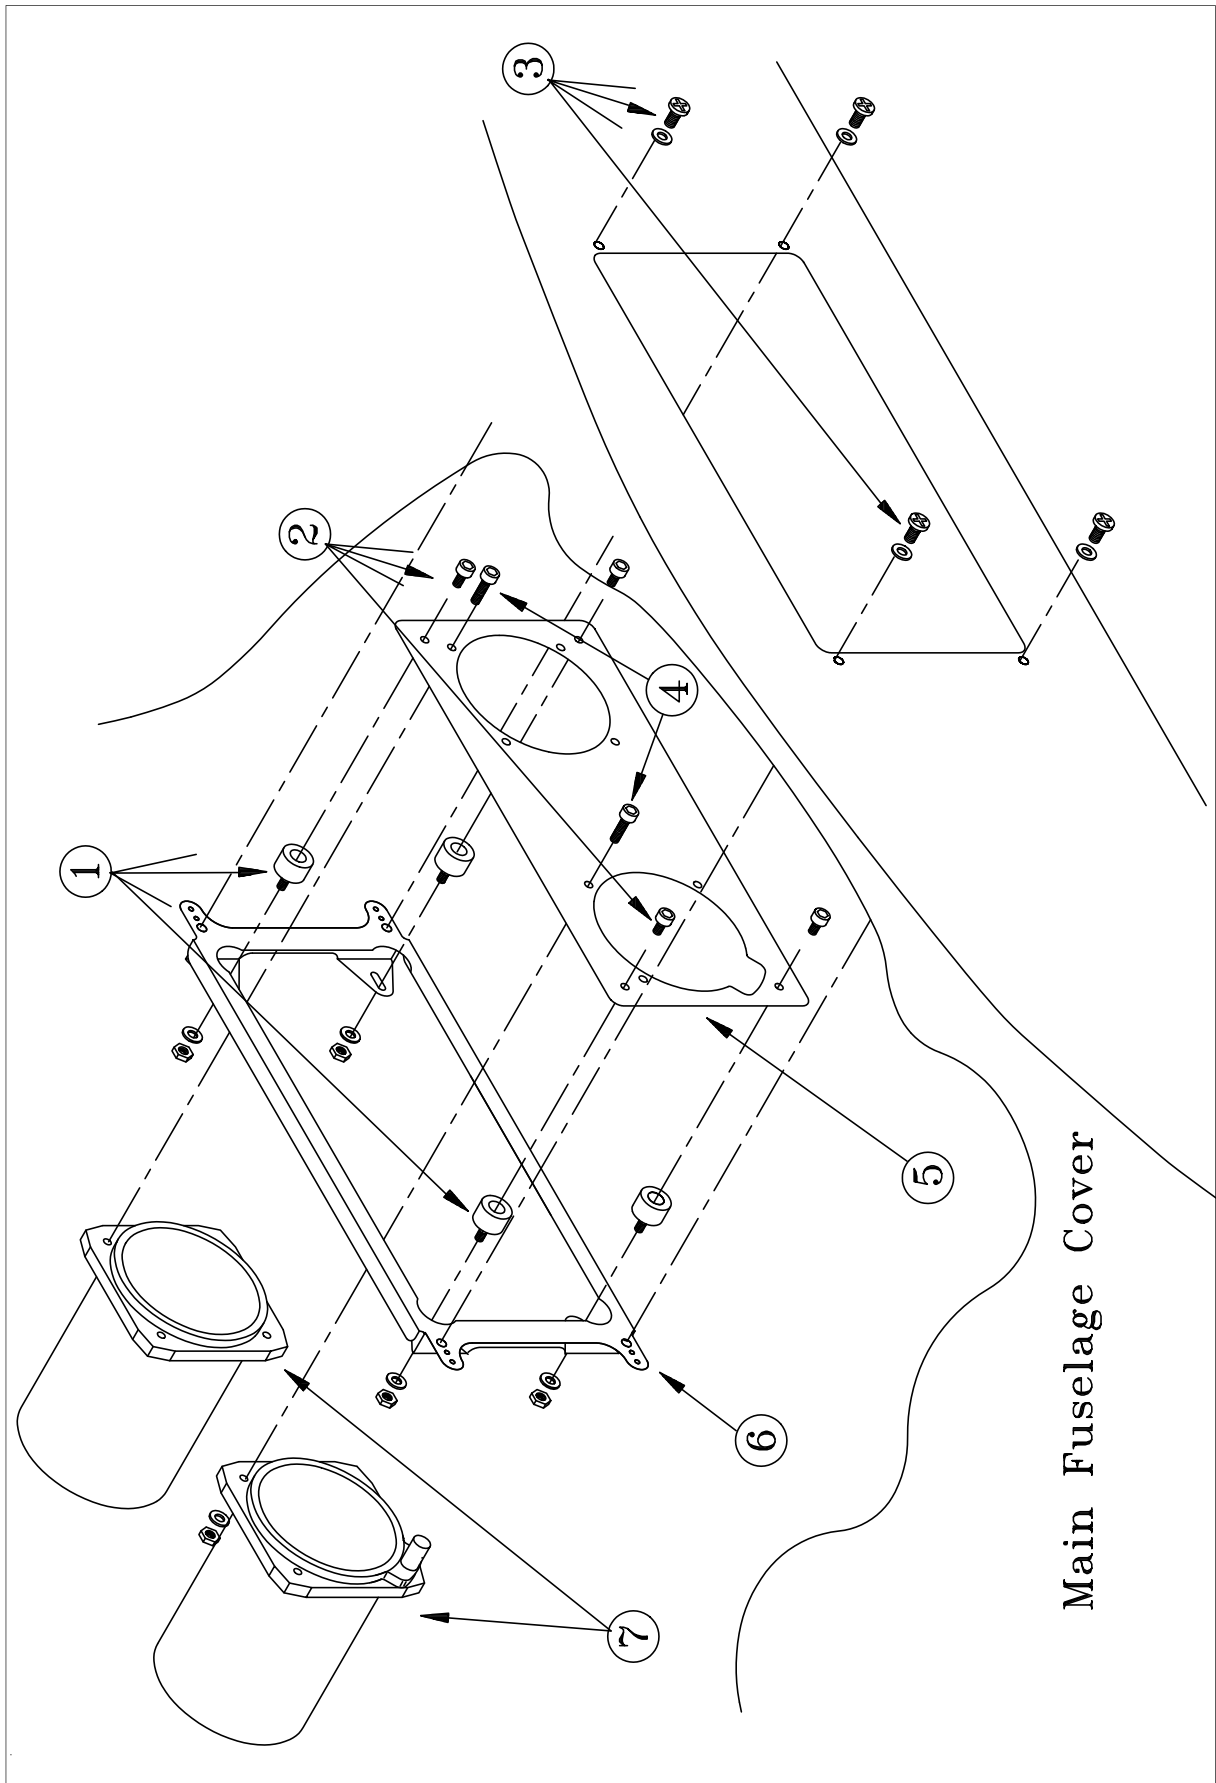

Figure 3
- 1 Remove the AN526 C-1032-R6 instrument panel attachment screws (3, Figure 3).
- 2 Disconnect the pitot resp. static lines from the instruments (7). Mark lines for later identification.
- 3 Remove instrument panel (5) and frame (6).
- 4 Remove DIN 912 M4x20 screws (4) if removal of instruments is necessary.
- 5 Remove DIN 912 M4x5 bolts (2) and shock mounts (1) with LN 9348 M4 stop nuts for disassembly of instrument panel and frame.